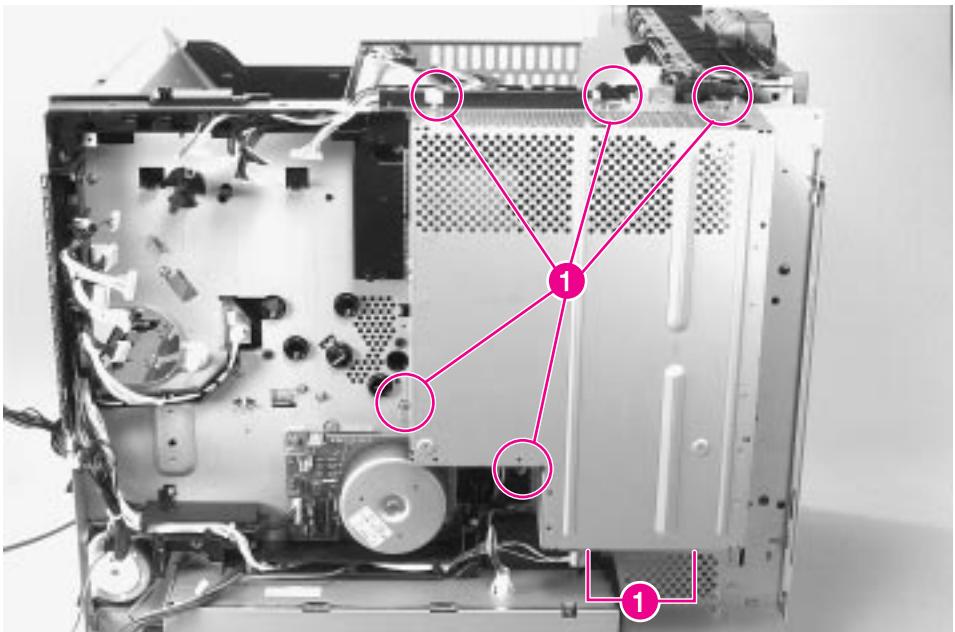

Figure 6-34 Output Paper Sensor PCA (1 of 4)
- 2 Remove 7 screws (figure 6-34, callout 1), and remove the Formatter PCA cage.